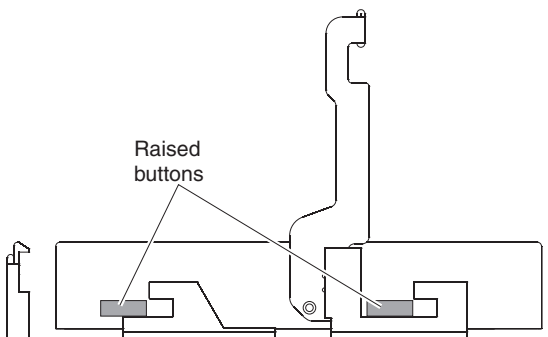

Figure 55. Aligning the drive
2. Align the two raised buttons on each side over the matching gap in the drive channel on the drawer, as shown in Figure 55.